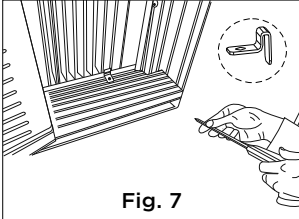

Fig. 7
A. Place the frame lock between the frame extensions and the window sill as shown (Fig. 7).